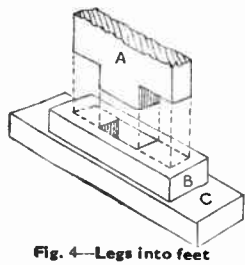
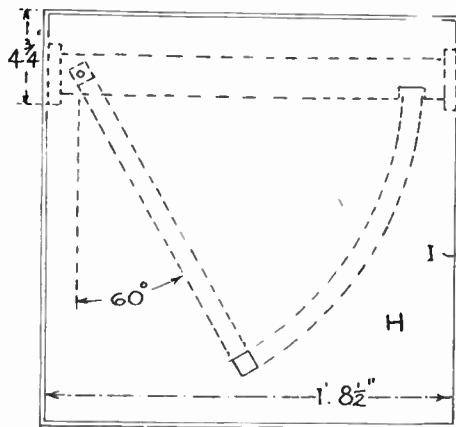
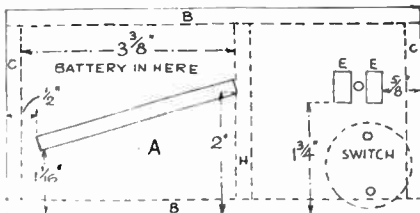
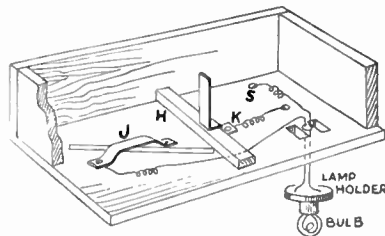

Fig. 4—Legs into feet
Fig. 6—Plan of top with swing of leg dotted
Fig. 2—Plan of the base board top
Fig. 3—Underview of box showing connections
The main frame support for the table consists of four pieces, two uprights and two horizontal rails, with the addition of four pieces coupled to form suitable feet. In Figs. 2 and 3 the uprights (A) are first made and these are 1ft. 8½ins. long by 3ins. wide by ½in. or ¾in. thick.
The length given allows for ½in. depth of tenon to go into piece (B) of the feet, see detail Fig. 4. There must be two mortises cut in each piece (A), to take the ends of the horizontal rails. The measurement of 4½ins. must be taken up from the bottom of the upright, as in Fig. 3, the space between this mortise and the upper one being 14ins., as seen in Fig. 2.
A view of one of the feet is shown in Fig. 4. piece (C) being 5ins. long by 1½ins. by ½in. section, and piece (B), 3½ins. long by 1½ins. wide by ½in. thick. Mark off the mortises carefully in pieces (B) to fit the tenons of pieces (A). Then glue all firmly together.
This is again seen in the view Fig. 2 and in the plan Fig. 6. Glue the rails (D) in place in the uprights, making sure to get a close fit and, therefore, a rigid frame. At the opposite end to that containing the recesses, cut and glue in two small bracket pieces, as shown in Fig. 2. These are to strengthen the joint here and to help make a strong fixing for the pivoting screws which run up through both thicknesses of wood, see dotted lines for both rails (D).
Figs. 2 and 3 Front and end elevation showing parts and dimensions
The finished table top is hinged to the uprights with hinges measuring about 2ins. by  $\frac{3}{8}$  in. wide. It would be best, and would make a neat job if the hinge flaps are recessed into the tops of the uprights, as in Fig. 3. Note the correct position of the table top in relation to the uprights, as in Fig. 6. The distance of 4 $\frac{1}{2}$ ins. is carefully measured and squared across so the frame hangs square when folded down. Test this out before finally fixing the hinges in place.
First make a shallow oblong box  $6\frac{1}{2}$  ins. long by  $3\frac{1}{2}$  ins. wide and  $1\frac{1}{2}$  ins. deep. The top of the box, piece (A), should measure  $6\frac{1}{2}$  ins. by  $3\frac{1}{2}$  ins. In it are cut the two slots or mortises, marked (E,E) in Fig. 2. Set out the two measurements shown, to get the proper position of the slots which each measure  $\frac{1}{2}$  in. by  $\frac{1}{2}$  in. and are spaced  $\frac{1}{2}$  in. apart. Cut these carefully with the fretsaw. The tenons which go into them must fit stiffly and accurately. Between the slots, next cut a hole large enough for the two wires of the flex to pass through to the lamp at the top of the tree.
The sides (B), measure  $6\frac{1}{2}$  ins. by  $1\frac{1}{2}$  ins., and are glued on to the top (A), flush with the edge, as shown in Fig. 3. This gives an underside view of the construction of the box and its interior fittings.
To get the proper placing of the giraffe, the slot in the top of the box is indicated and figured in Fig. 2. If the slot is not to be made, then the position will be just pencilled on.
It will be understood that a double-cell battery is to lie at one end of the box, as indicated in Fig. 2. A cross rail (H) bearing a brass strip will be fitted here to connect with the contact strip at the end of the battery, all as seen in Fig. 3. Then to form the second connection between battery and lamp, a raised loop of brass is screwed to the top of the box to contact that between the two cells of the battery.
Before, however, this can be done, a switch must be fixed to the top of the box in the position shown in the sketch, Fig. 1. That is, just near the foot of the tree, and at (S) in Fig. 3. Here two holes are bored for the passage of the connecting wires.